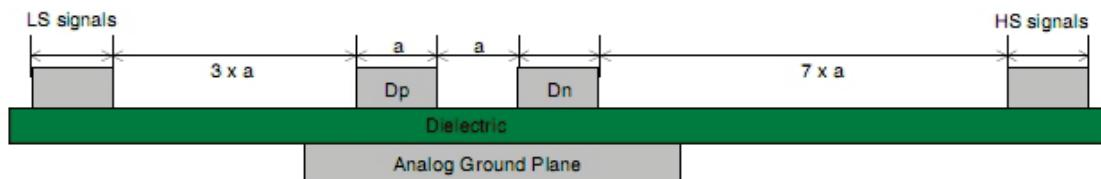

Figure 4-28 USB Layout
- The USB traces at least need to be maintained a clearance of  $3W$  with other signals. Shown as Figure 4-28.